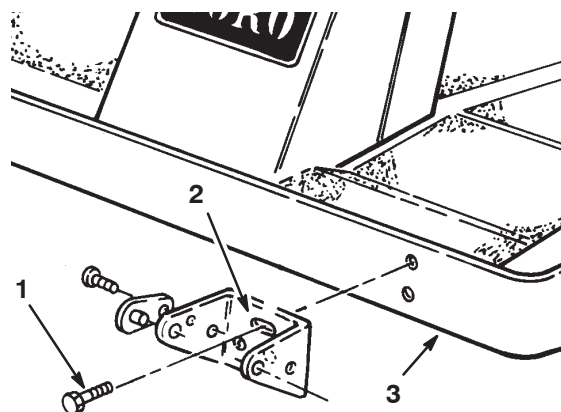

Figure 8
3. To install the mounting brackets, insert 2 flange head capscrews (3/8 x 1 in.) through the slotted bracket holes. Thread the screws into the captivated frame nuts and torque them to 45–50 ft.-lb. (61–68 N-m) (Fig. 8).